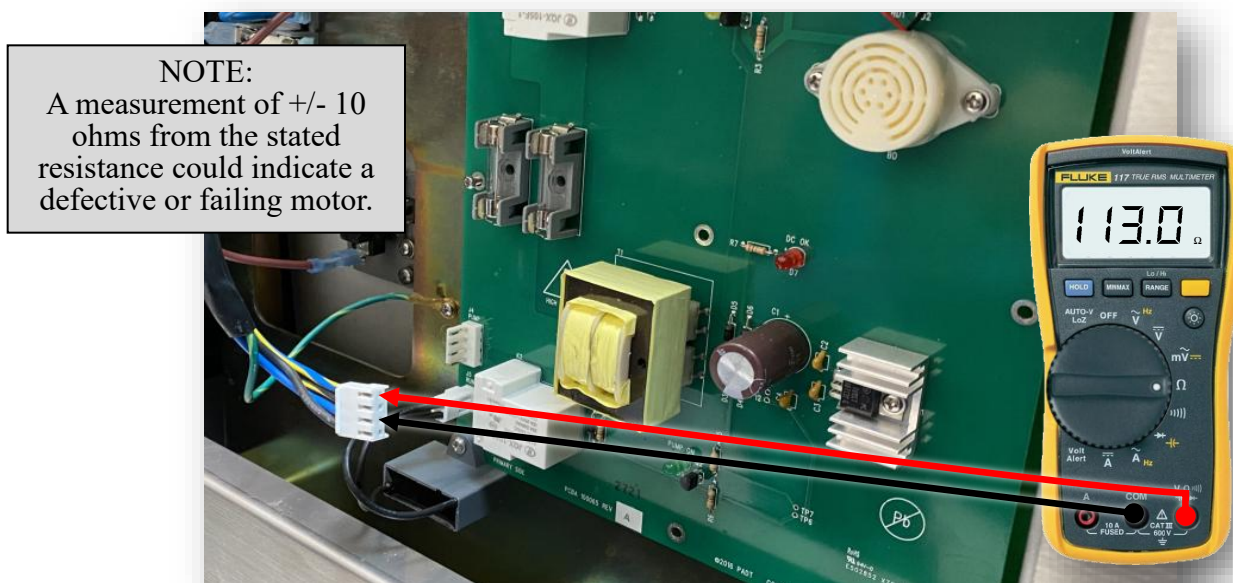

Figure 23 – Pins 2 and 4 (Pump Motor Winding Resistance)
- b. Check the resistance of the Pump between pins 2 and 4 (See Figure 23).